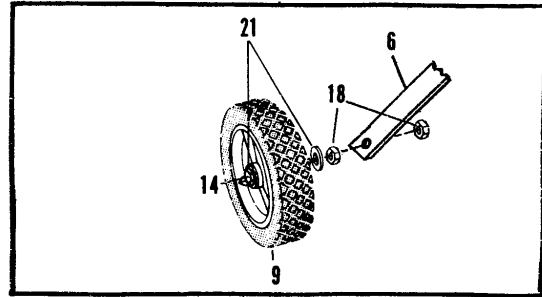

Fig. 4
- Refer to Figure 4
- Slip one 1/2" Flat Washer (21) on each of the two 1/2"x 3" Hex Bolts (14), followed by a Wheel(9) and another 1/2" Flat Washer (21).
- Now, thread one 1/2" Hex Nut (18) on each bolt allowing the wheel to rotate freely while keeping the "SIDE PLAY" to a minimum.
- Insert both 1/2"x 3" Hex Bolts (14) into each Wheel Mount Bar (6) from the outside as shown and then secure with 1/2" Hex Nuts (18).
- Attach the Logo Decal (1) as shown on the exploded view on page 6.